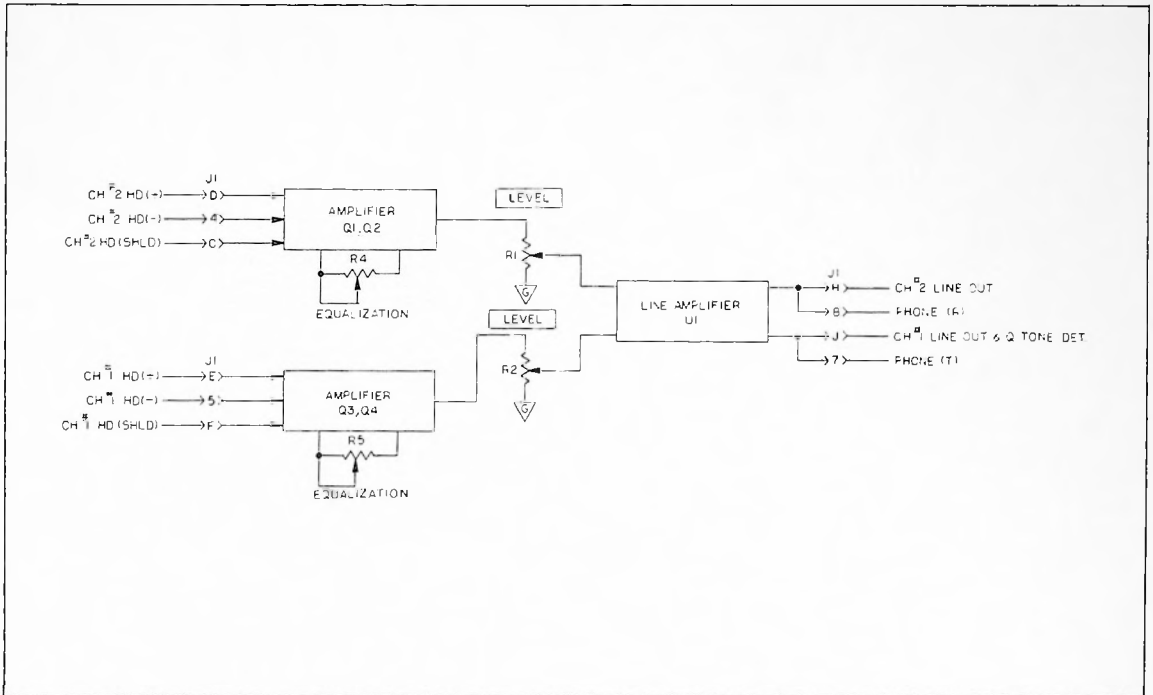

Figure 6-3. Playback Amplifier (Stereo) Functional Block Diagram
6.11 The playback amplifier for the 255 Series Reproducers is a fully self-contained module. Access to the playback amplifier board is accomplished by removing the front transport control panel, and using the finger hole provided on the board for adding accessories such as microphone preamplifiers, and output transformer. Since the playback amplifier board has two identical channels, the following description is confined to channel 1 only. The playback amplifier consists of: (1) preamplifier Q4, Q3; (2) level control R2; (3) line amplifier U1; and associated components. Figure 6-3 shows a simplified functional block diagram of the playback amplifier.